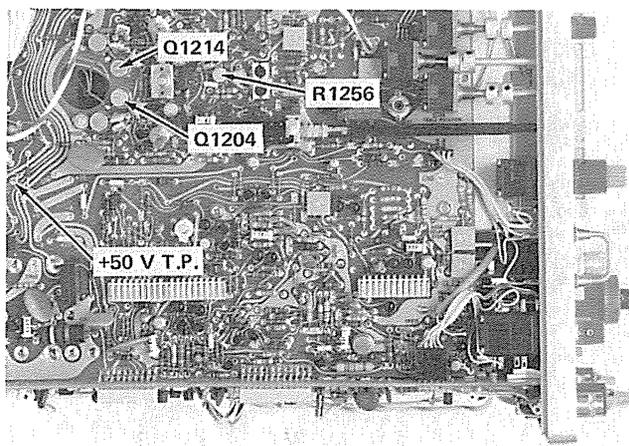

Fig. 5-26. Location of Q1204, Q1214, +50 V TP, and Horizontal Output Centering adjustment.
d. Connect a X10 probe from the Test Oscilloscope to the +50 V test point on the 475 (see Fig. 5-26).
g. Alternately check the voltage on the collectors of Q1214 and Q1204 (see Fig. 5-26).
j. ADJUST—Horizontal Output Centering adjustment, R1256 (see Fig. 5-26), for +50 V on the collector of Q1214 and Q1204.